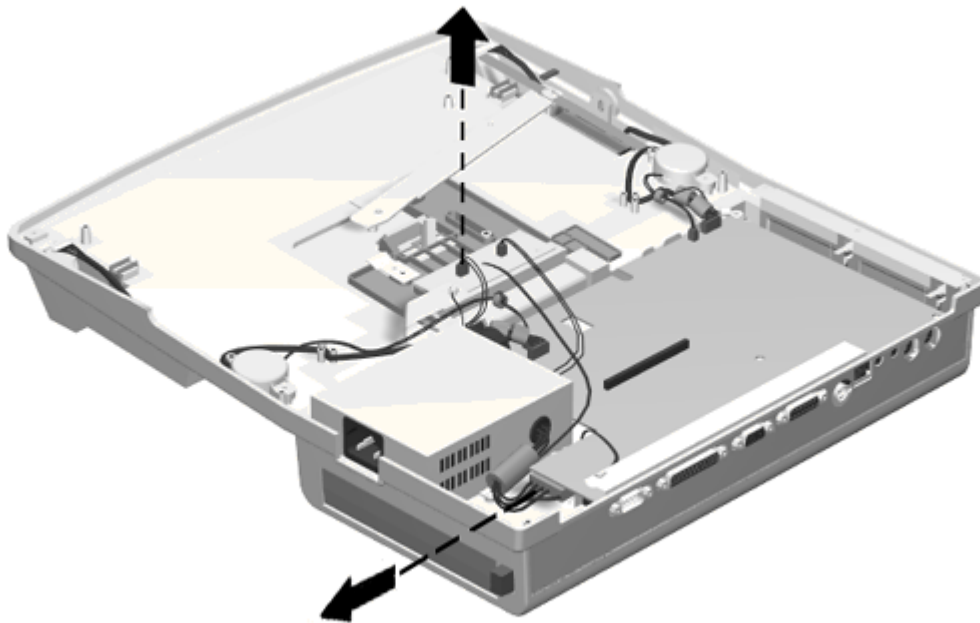

Figure 6-12. Disconnecting the Power Supply
3. Disconnect the power supply from the main board (Figure 6-12).
4. Disconnect the power supply fan cable from the Fan Control Board (Figure 6-12).